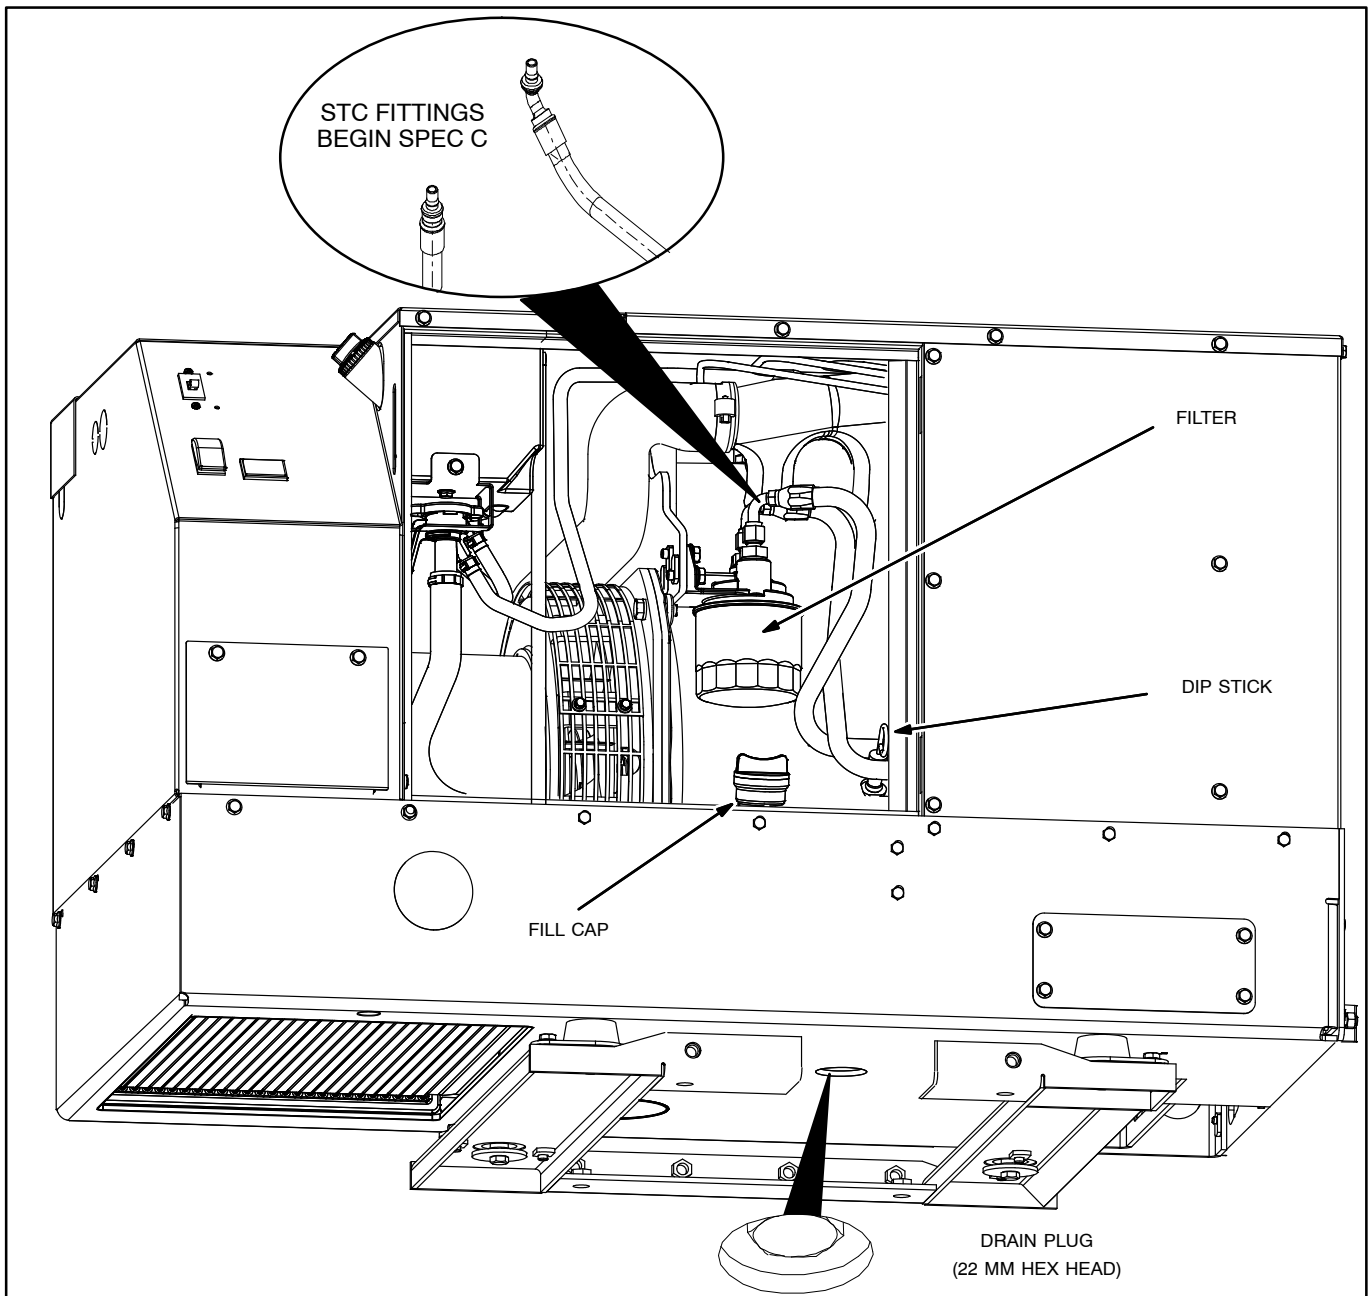

FIGURE 3-1. ENGINE OIL MAINTENANCE
Check engine oil level (Figure 3-1).
2. Pull out the oil dip stick, wipe it clean, reinsert it and pull it out again to check the oil level (Figure 3-1).
3. Place a pan large enough to hold the full oil capacity of the engine under the oil drain plug (Figure 3-1).